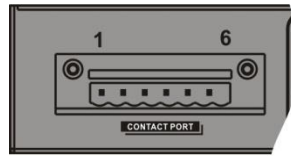

Fig. 1: Contacts Connector
The contact outputs consist of six (6) pins numbered from left to right (see fig. 1), which can be connected to an external monitoring system (such as a BMS) in order to monitor the operational status of the ATS.